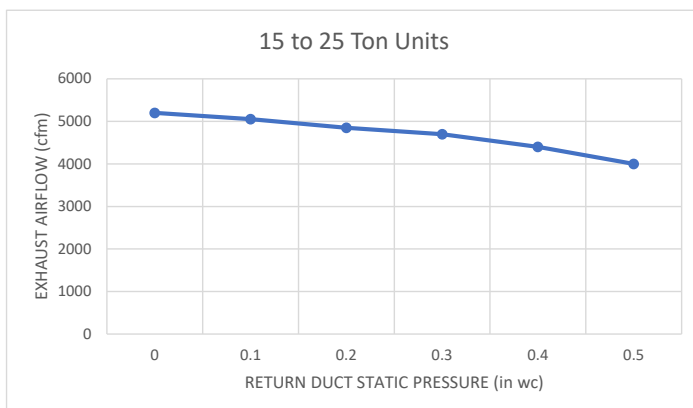

FIGURE 10 – POWER EXHAUST PERFORMANCE
6. Test power exhaust operation by setting the power exhaust set point on the economizer controller to 0%. Power exhaust performance is shown in Figure 10.